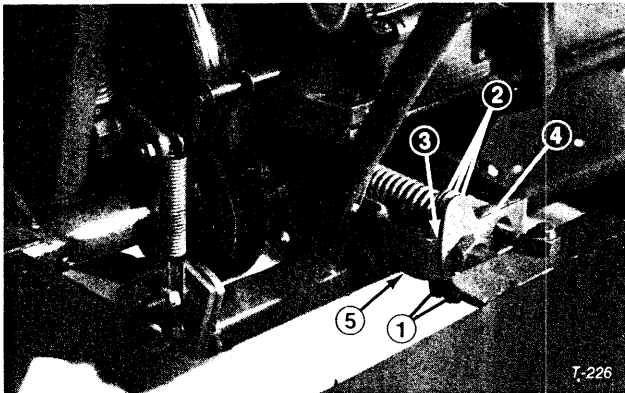

Figure 35
1. Remove screws and locknuts securing rear center and rear side shims (Fig. 35, 36).
2. Move one shim from spring side of yoke to opposite side (Fig. 35).
3. Insert shim between locknut and yoke (Fig. 35). Locknut may be slightly loosened during this
procedure and then tightened. However, be sure jam nut does not rotate or cutting unit attitude will be affected and height-of-cut slightly changed (Fig. 35).
5. Check chain tension. If chain still comes within 1/2 in. (13 mm) of touching, add another shim at each of the three points and recheck tension. Continue until chain is properly tensioned or all shims have been moved. If all shims have been moved, but chain is still too slack, chain must be shortened; refer to Shortening Chain, page 22. If tension is correct, install screws and locknuts and continue operation (Fig. 35, 36).
1. Move shims back to original position at all three points (Fig. 35, 36).
2. Remove chain from mower and remove (1) one chain link.
3. Install (1) one offset link. Offset link may be obtained from your Toro Distributor.
4. Install chain and check tension. If tension is incorrect, move shims to opposite side of center yoke and between hanger and support at each side of cutting unit; refer to Rear Cutting Unit Drive, page 22. If tension is correct, secure shims with screws and locknuts and continue operation (Fig. 35, 36).